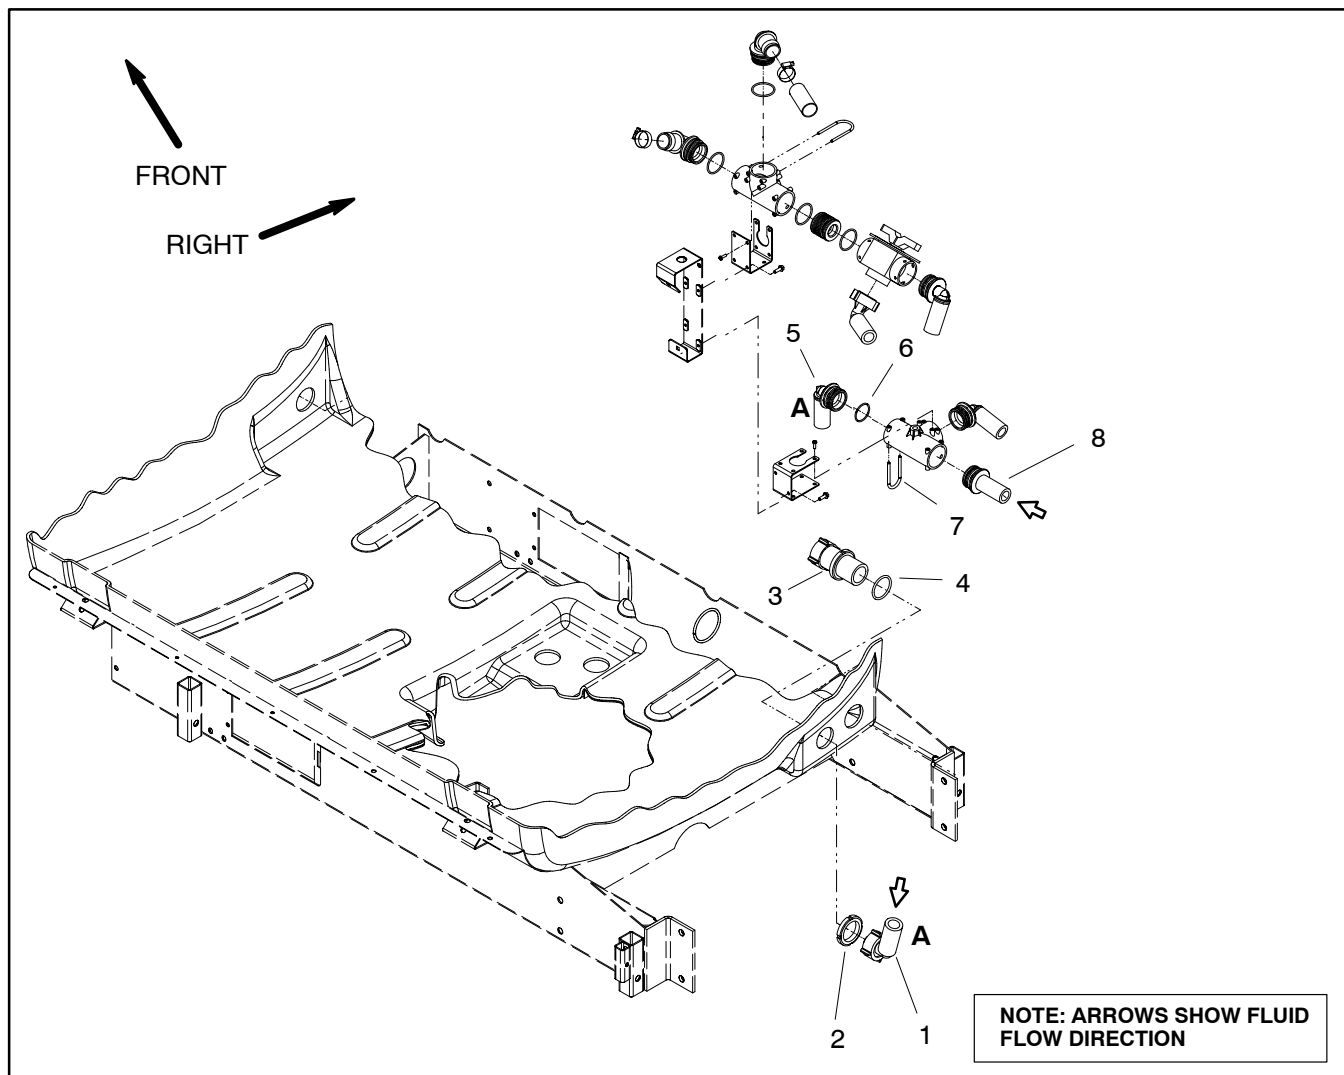

Figure 18
Removal (Fig. 18)
4. Remove pressure relief valve from spray tank using Figure 18 and 19 as guides. Discard all removed o-rings and gaskets.
Assembly (Fig. 18)
1. Assemble and install pressure relief valve using Figure 18, 19 and 20 as guides. Replace all removed o-rings and gaskets.